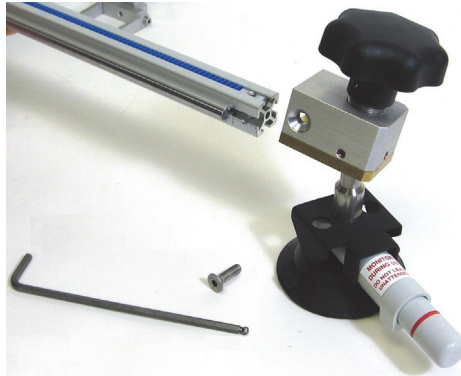

Figure 2-4 Removing the mounting pod
2. Remove the mounting pod (see Figure 2-4 on page 29).